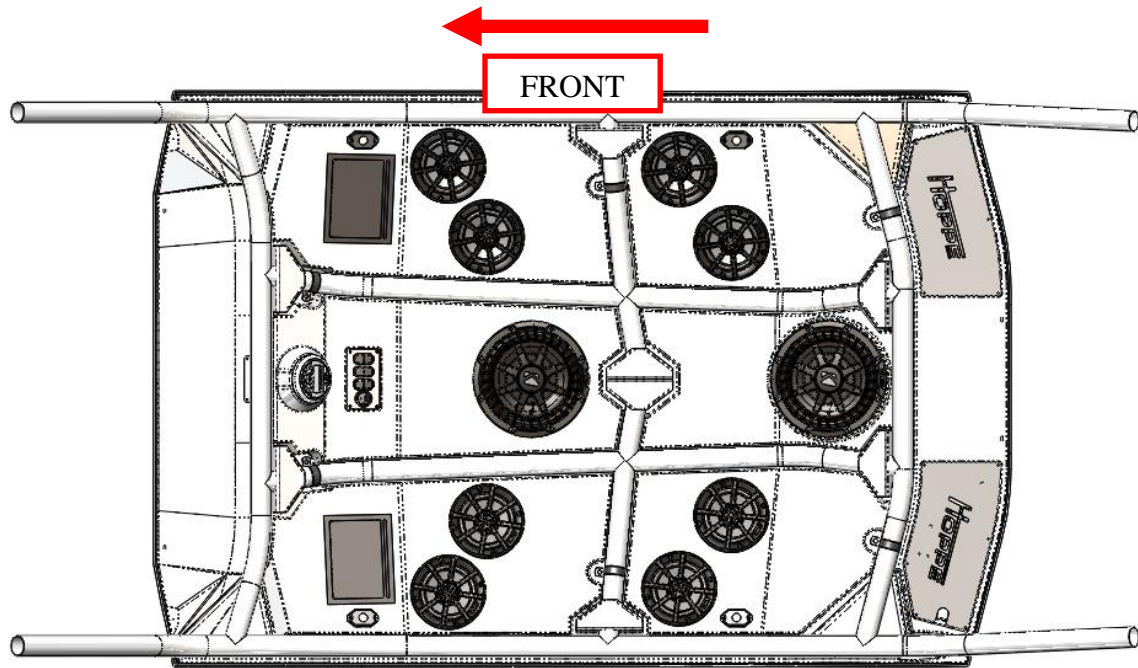

Figure 6: Install the top on the cage.
3. Using a few assistants, set the *Audio Shade* off-road top on the cage. The top is contoured such that the cage fits inside the grooves on the top. **Note: The top weighs up to 140 lbs. depending on your configuration. Since you will have to lift and reach, it is helpful to have up to 4 people for this step.** See Figure 6.